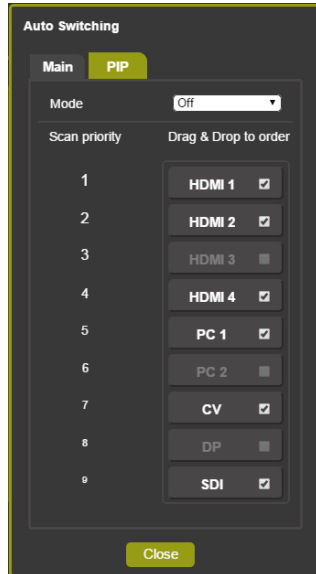
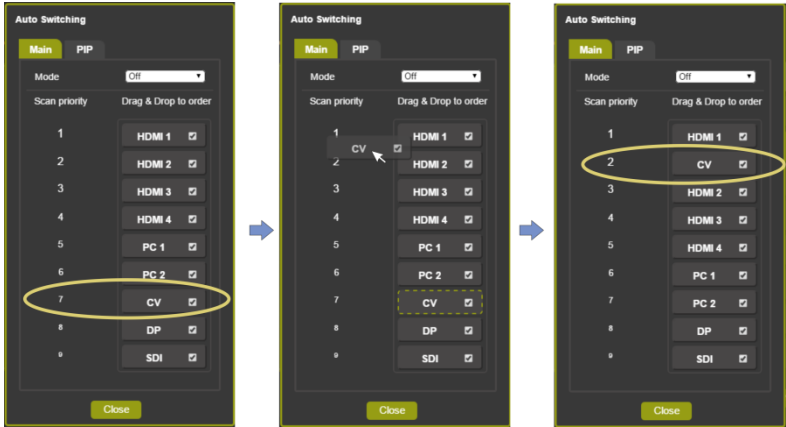

Figure 49: The Routing & Scaling Page – selecting the Inputs to Scan (PiP Tab)
Figure 50: The Routing & Scaling Page – Auto Switching Window
- **Scan** mode to scan through the inputs in search of a valid input signal. In the scan mode you can select which of the inputs will be included in the scan (see Figure 49) and also change the order of the scanned inputs (see Figure 50)
You can change the priority order as well by dragging an input button and dropping it in a new location, as illustrated in the example in Figure 50. In this example, CV is moved up in the priority list to be scanned for a valid input after HDMI 1.